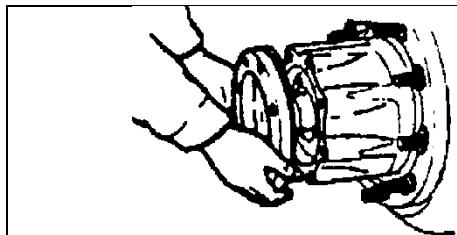

Figure 3-1
- 3) Gently pulling out the half-shaft, at the same time, through the oil seal of splined, slowly turning the half-shaft to avoid damage to the oil seal. If the half-shaft is difficult to turn, it is possible to use a hammer to lightly tap the middle part of the half-shaft end, until the half-shaft is loose as shown in Figure 3-1.